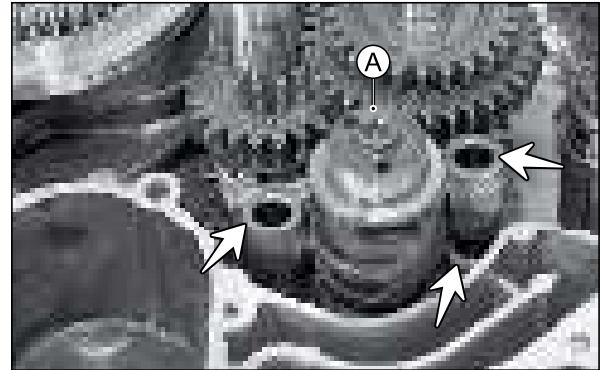

Fig. 3.199
- Assemble cam gear shift (A) in the crankcase assembly. (Fig. 3.199) and locate all the fork gear shifts into their respective grooves on the cam complete gear shift.